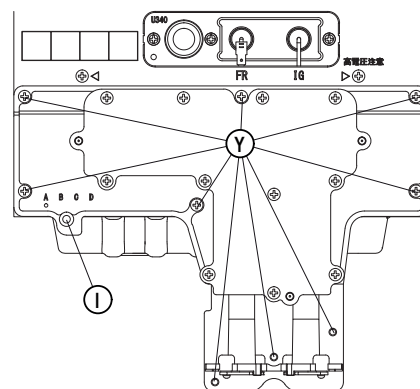
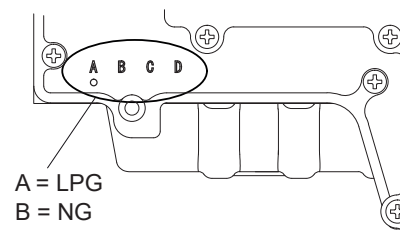

Fig.1
Fig.2
2. Disconnect the igniter from manifold ("I" - Fig.1).
3. Replace the gas manifold with the new suitable component (the manifold is fastened by the screws indicated with "Y" - Fig.1). Manifold's gas type can be checked by the letter marked as in Fig.2.